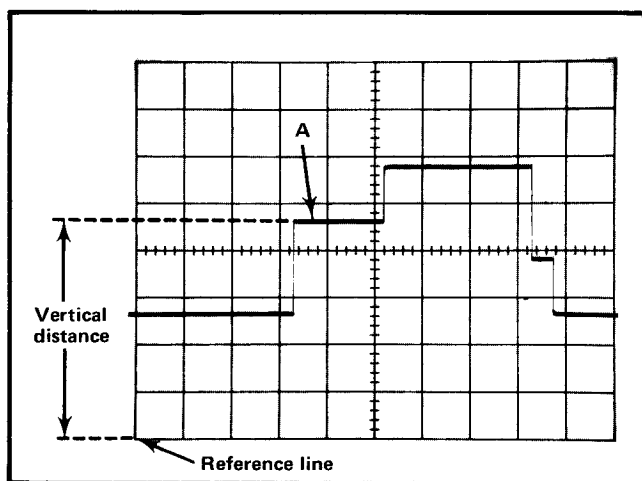

Fig. 2-20. Measuring instantaneous DC voltage with respect to a reference voltage.
9. Measure the distance in divisions between the reference line and the point on the waveform at which the DC level is to be measured. For example, in Fig. 2-20 the measurement is made between the reference line and point A.
Example. Assume that the vertical distance measured is 4.6 divisions (see Fig. 2-20), the waveform is above the reference line, using a 10X attenuator probe and a VOLTS/DIV switch setting of 2.